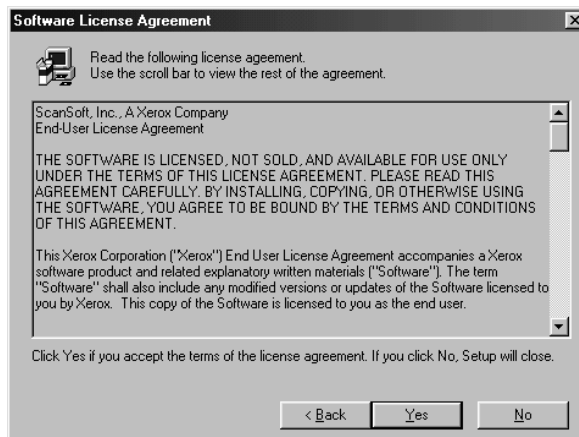

Figure 28: License Agreement
2. Click on 'Next'. Figure 28 will pop up.